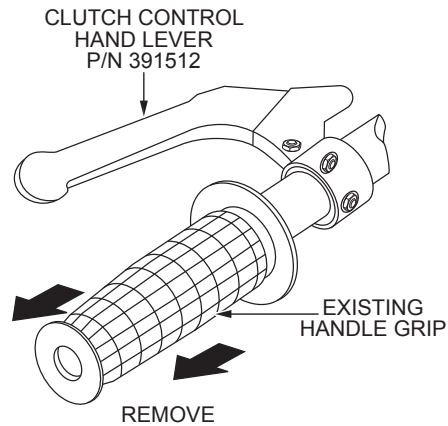

Figure 4. Existing Handle Grip Removal
3. Remove and discard the existing handle grip on the clutch lever side (Figure 4).